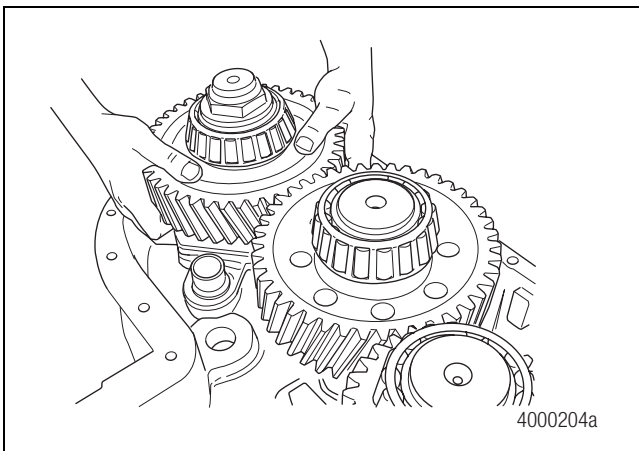
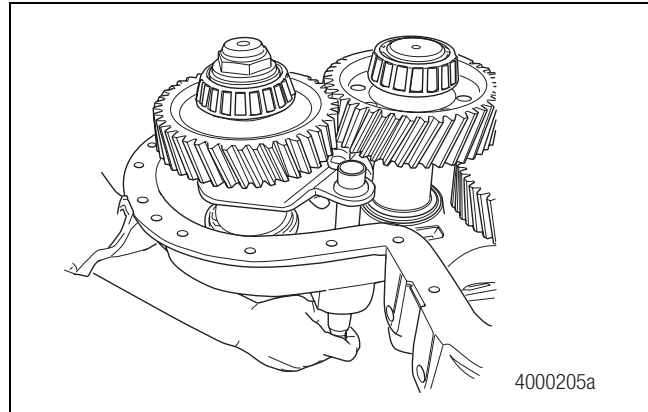

Figure 6.14
Figure 6.15
6. Install the front output shaft, shift fork and clutch collar in the front case. The shift fork will slide over the push rod. Figure 6.14 and Figure 6.15.